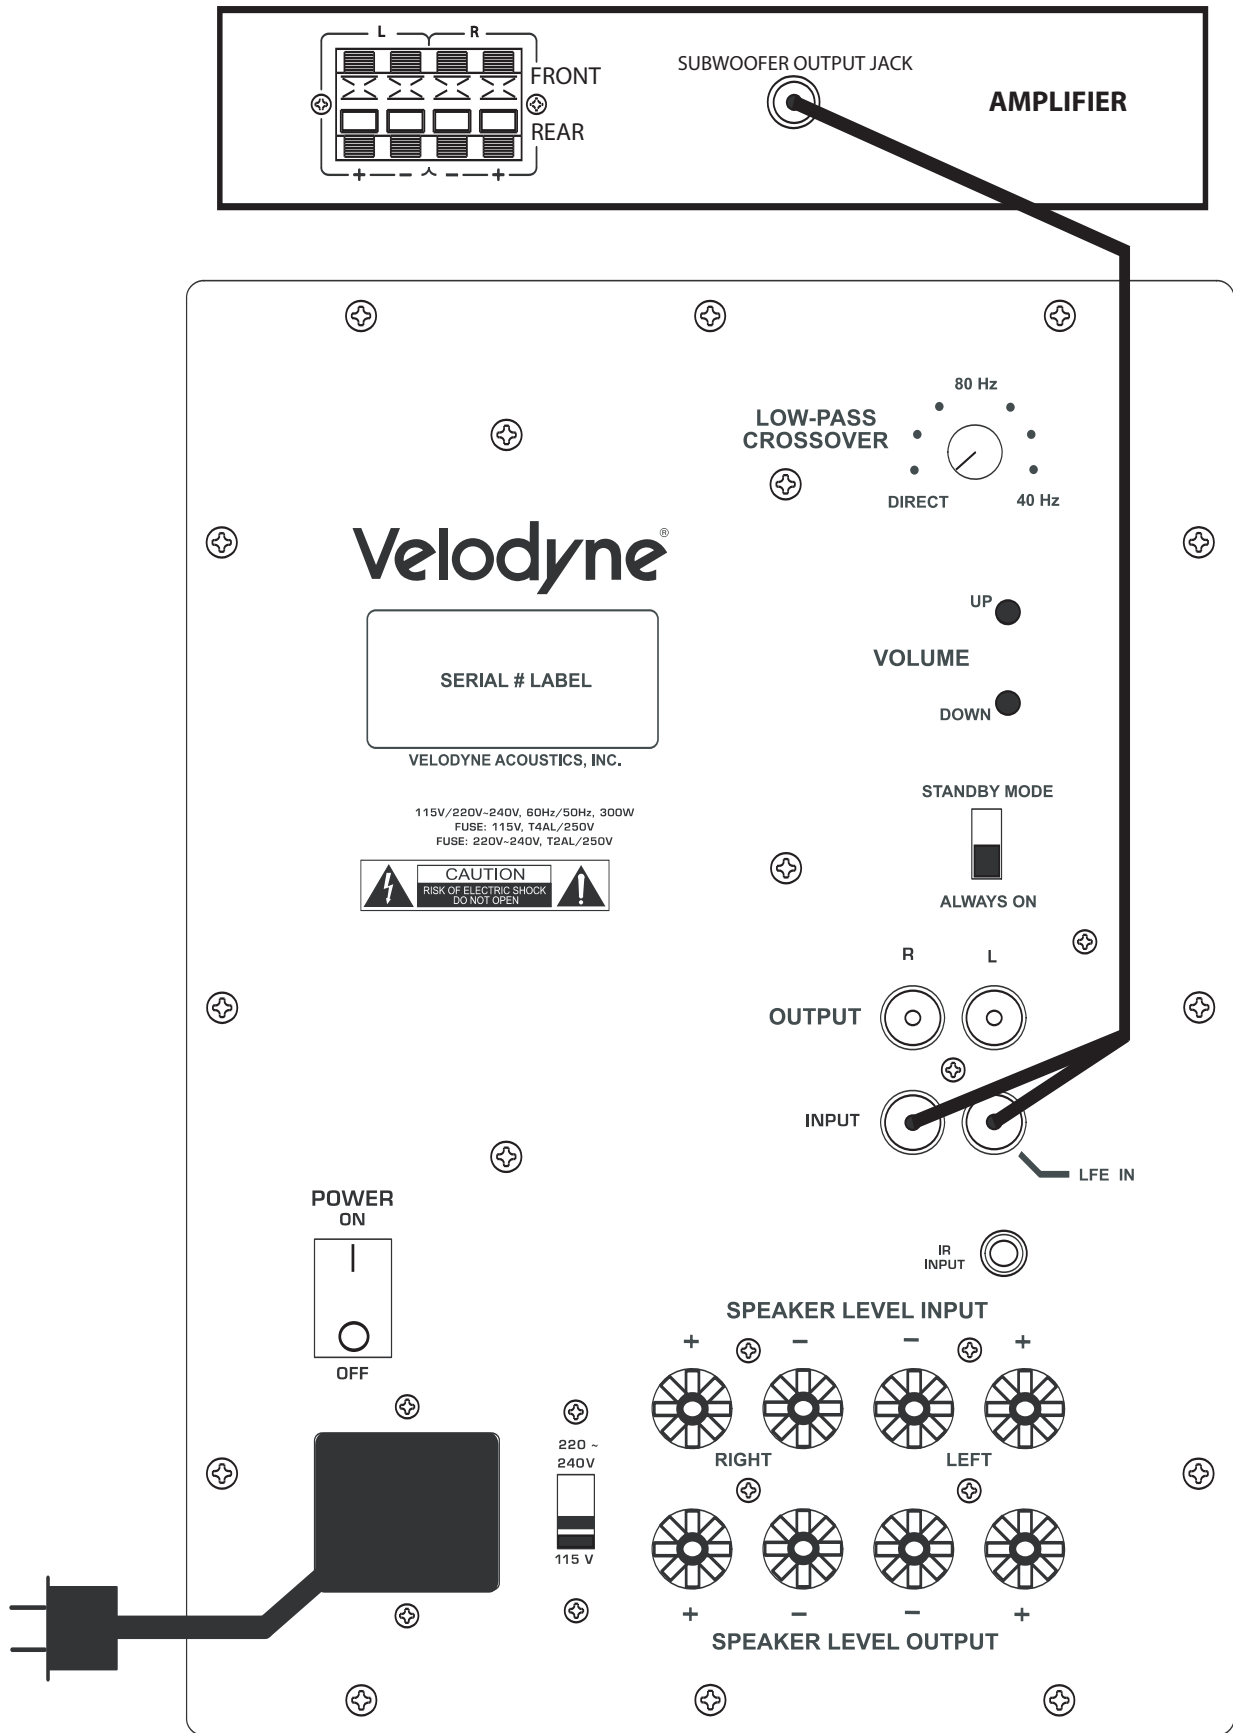
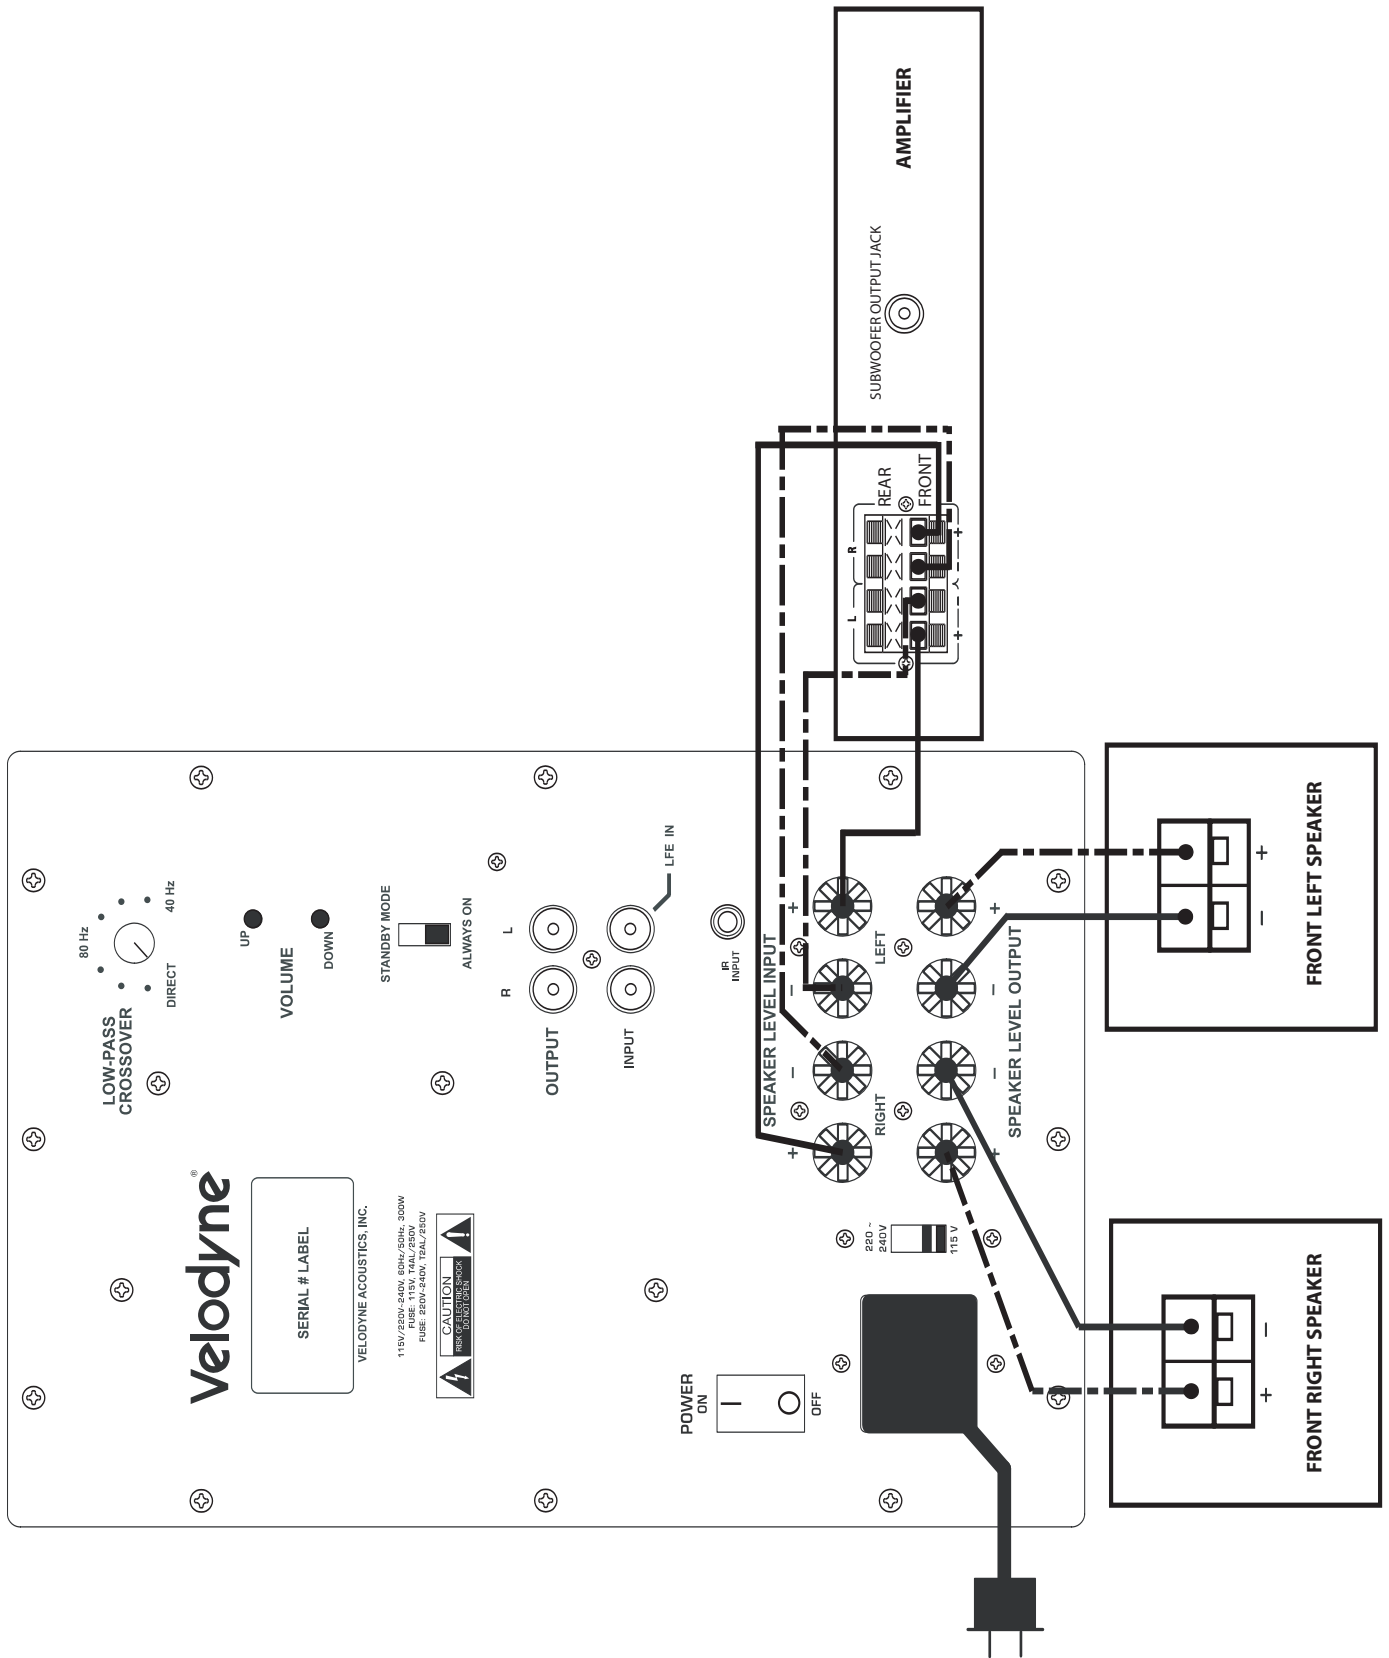

Figure 2a. Line-Level Subwoofer Connection Diagram
Figure 2b. Speaker-Level Subwoofer Connection Diagram
- 1) If using line level jacks, BOTH THE LEFT AND RIGHT INPUT SHOULD ALWAYS BE USED – never use just the left or just the right input. If using line level connections from a preamp or signal processor, use both Left and Right inputs from your preprocessor or preamp and connect them to the Left and Right inputs on your subwoofer. (See figure 2a on page 10.)
- 2) If using a receiver with LFE out, be sure the LFE channel is sending adequate signal to the subwoofer. The subwoofer's default volume setting is 30 on a 1-80 scale (roughly 1/3 volume). Adjust the LFE channel on your receiver or processor to achieve the desired bass output. See your receiver or processor's owner's manual for more information. (See figure 2b on page 11.)
*(Refer to Figure 2a Line-Level Subwoofer Connection Diagram and Figure 2b Speaker-Level Subwoofer Connection Diagram, pages 9 and 10 for connection diagrams.)*